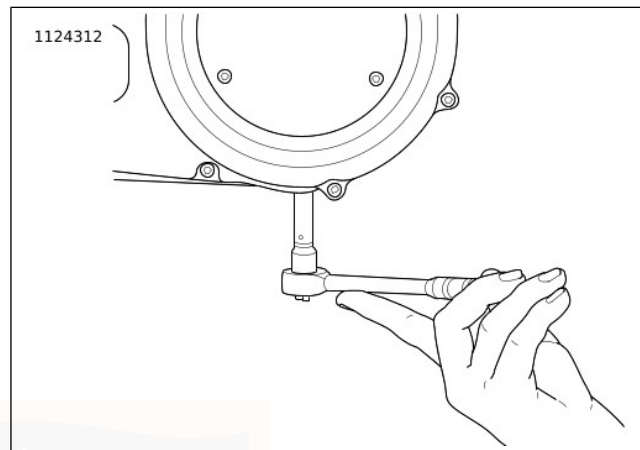

Figure 69. Removal/Installation of Chaincase Drain Plug
3. See Figure 69. Drain primary chaincase.